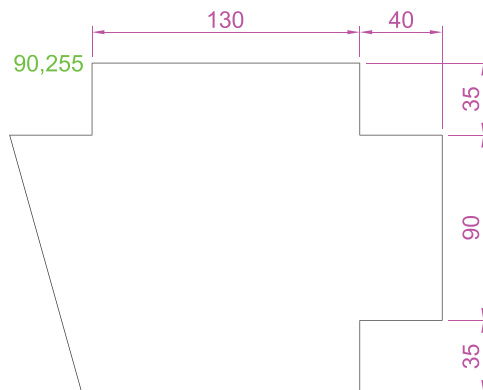

Fig. 2.17 First example – **Erase**. An incorrect outline
1. With **Line** construct the outline (Fig. 2.17).